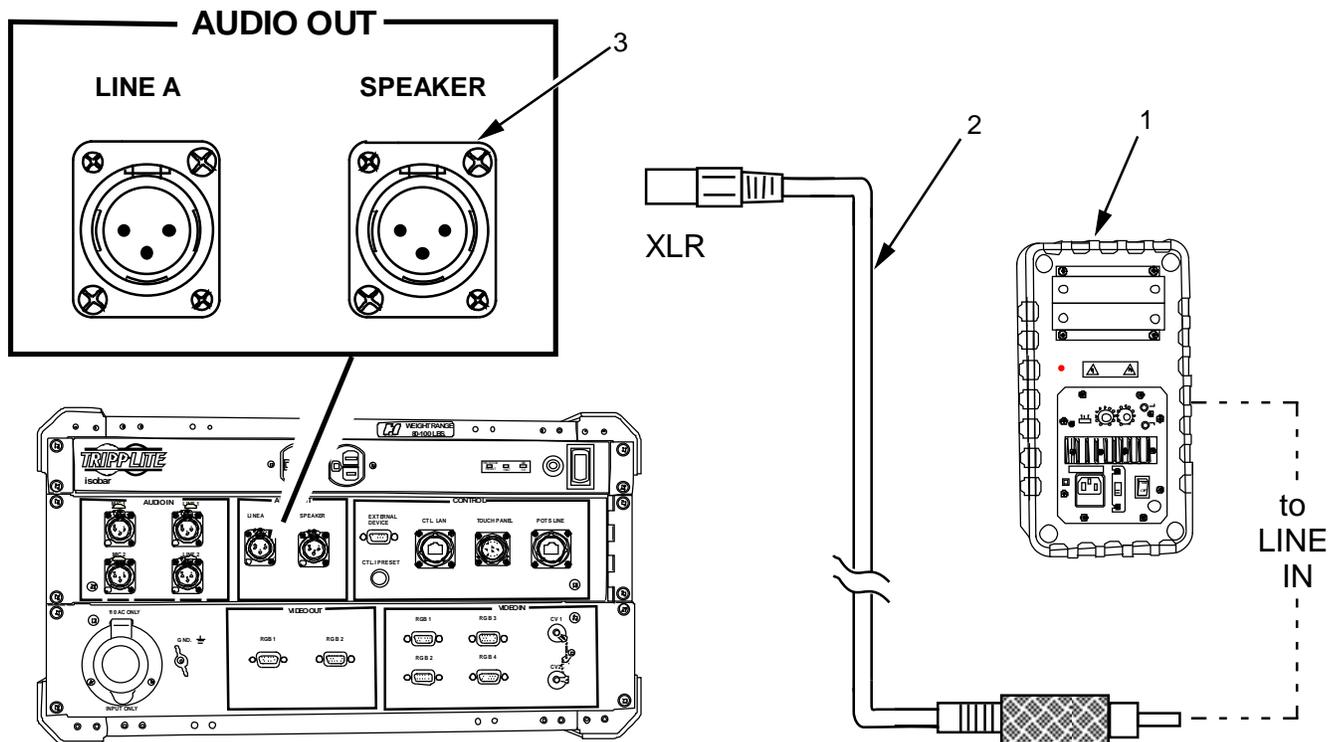

Figure 5. AVCS (MINI) AUDIO Output Connection.
2. Position the speaker (Figure 5, Item 1) in the desired location.
3. Obtain one XLR cable (Figure 5, Item 2) and connect the RCA jack end into the LINE IN jack on the speaker.
5. Remove the dust cover from the XLR connector on the AUDIO OUT panel located on the rear of the AVCS (MINI). Insert the XLR connection into the connector labeled SPEAKER (Figure 5, Item 3) and press to lock into place.